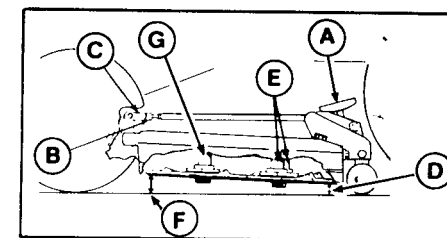

Figure 39. Level Mower
2. Turn both mower height adjustment handles (A, figure 39) fully clockwise to the highest cutting height position.
3. Rotate the mower blades so the tips point straight forward and backward as shown in figure 39.
- a. Loosen the jam nuts (B, figure 39).
- b. Remove the cotter pins and then disconnect the eyebolts or yokes (C, figure 39) from the mower hitch.